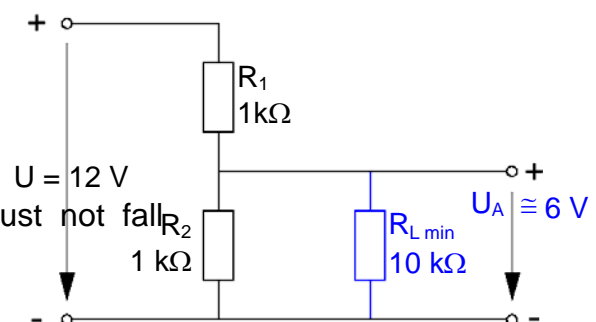

Fig. 4.2.2.1:
The voltage divider shown in Fig. 4.2.2.1 is to provide half of the input voltage $U = 12\text{ V}$ as an output voltage $U_A = 6\text{ V}$ (therefore, $R_1 = R_2$). Irrespective of the loading variations due to different consumers (R_L), the following conditions should be observed:
- Assemble the circuit in Fig. 4.2.2.1 on the Electronic Circuits Board (Notes on assembly will be found in section 4.2.3). Apply a voltage of $U = 12\text{ V}$ to the input of the voltage divider (check the input voltage on a multimeter).